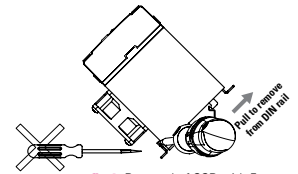

fig.2 Removal of SSR with Fan
- For models with integrated fan removal tool must be inserted from the side (as shown in fig. 2)